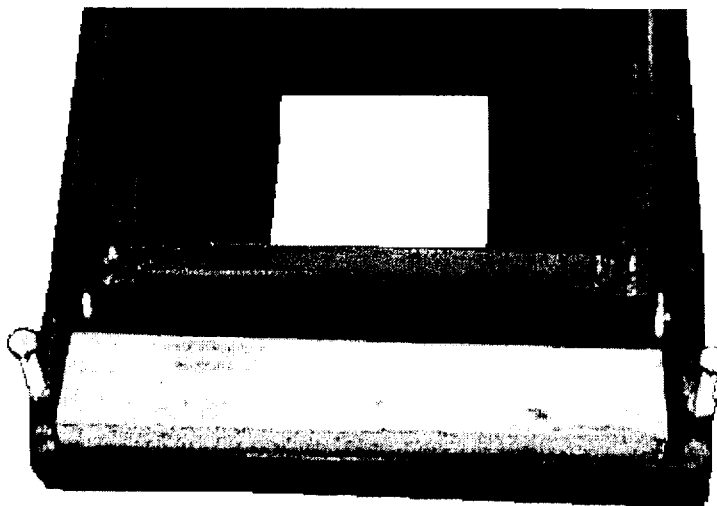

Figure 3 – Insert 4"x4" Wood Block as a Safety Mechanism During Installation
4. NOTE: Once the lift has been fully raised for the first time, place the 4"x4"x19" piece of wood (supplied) into the baseframe weldment as shown in Figure 3. **This must be done so that if the lift comes off the safeties during installation, the scissors will not collapse** (i.e. they will jam against the wood block). The blocks may be removed once installation is complete.